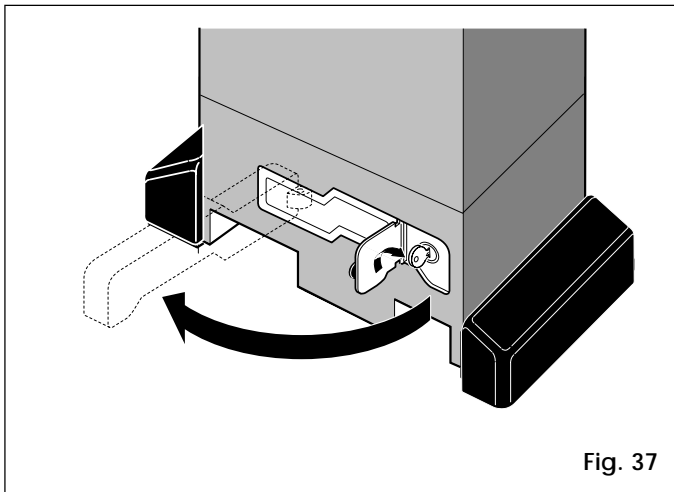

Fig. 37
- 2) Turn the key clockwise and pull out the release lever as shown in Fig.37.